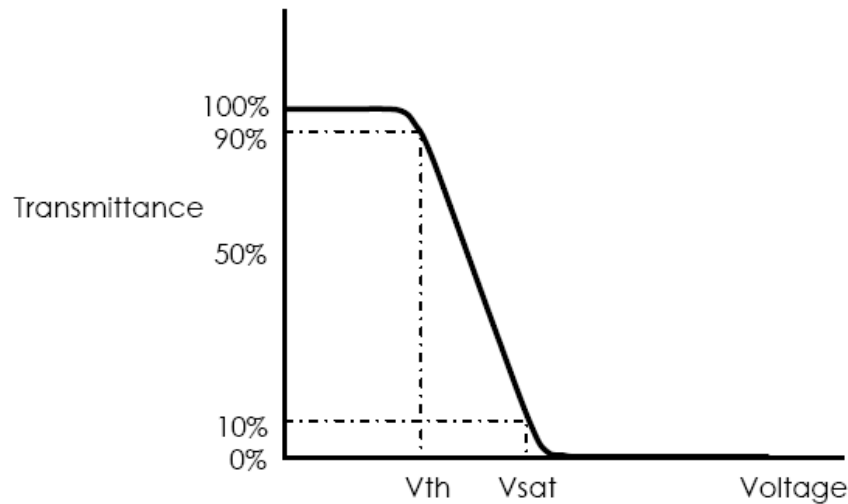

Figure 3. The definition of V_{th} & V_{sat}
6. The electro-optical response time measurements shall be made as FIGURE 3 shown in Appendix by switching the “data” input signal ON and OFF. The times needed for the luminance to change from 10% to 90% is T_r , and 90% to 10% is T_d